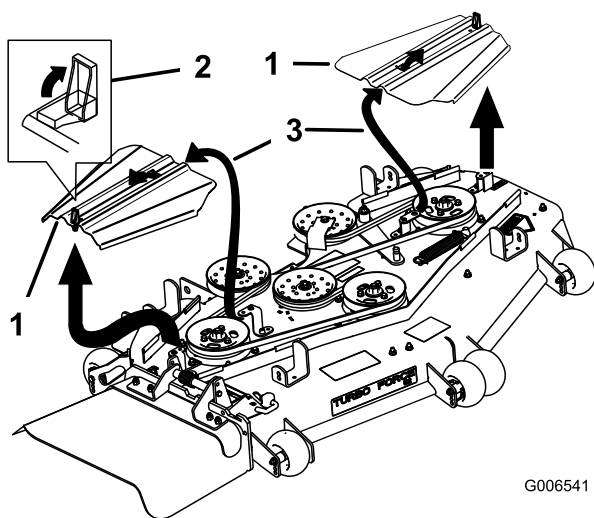

Figure 74
3. Remove the belt covers (Figure 74).